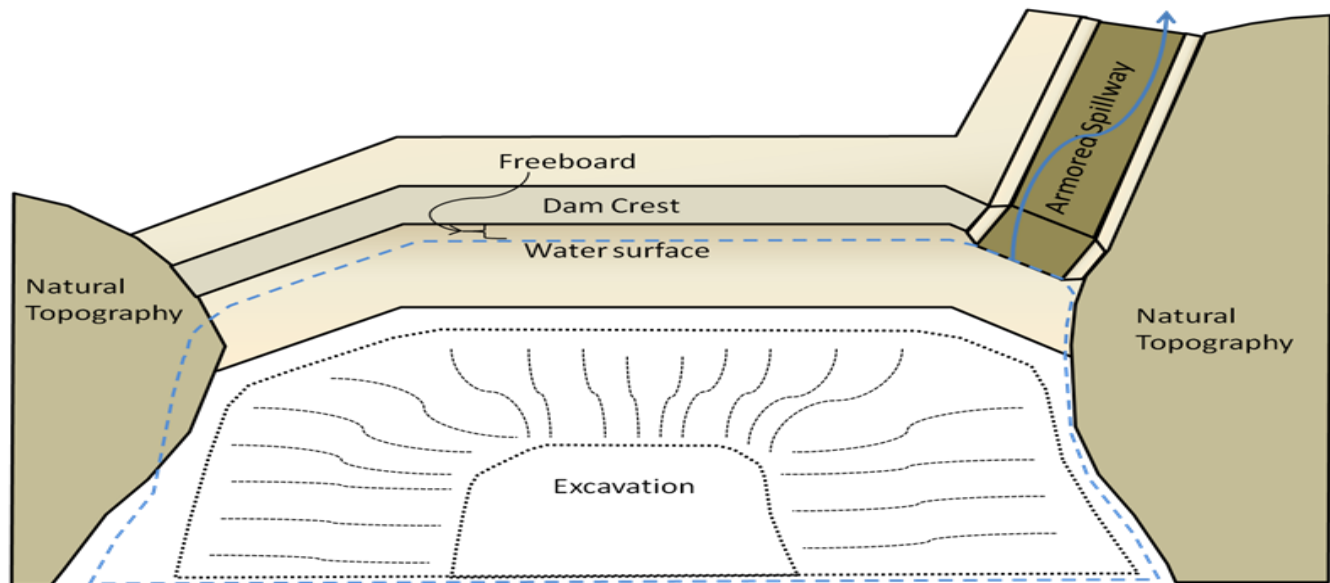

Figure 2. Example plan view of dam and pond excavation showing the spillway directing water away from the dam.
- The emergency spillway should be designed and built to pass the 50 year peak flow and may serve as the primary outlet for the pond (Figure 2). The spillway should be constructed in a manner to direct water away from the dam face and to avoid erosion of the spillway: use a gentle slope (approximately 1:12), line with geo-textile fabric and rock, or seed with grass soon after construction.